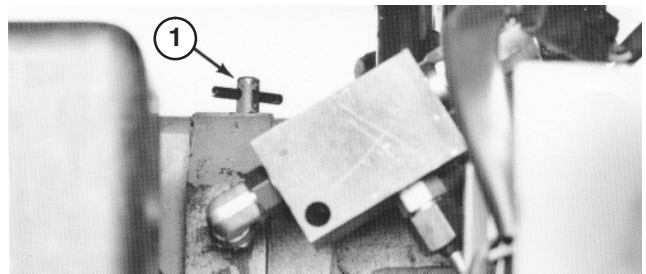

**Figure 15**
1. Lower roll bar onto frame, aligning mounting holes as shown in Figure 15.
2. Secure roll bar to frame with 4 bolts (3/4 x 5-1/2 in.), lock washers, and nuts (Fig. 15). Tighten securely.